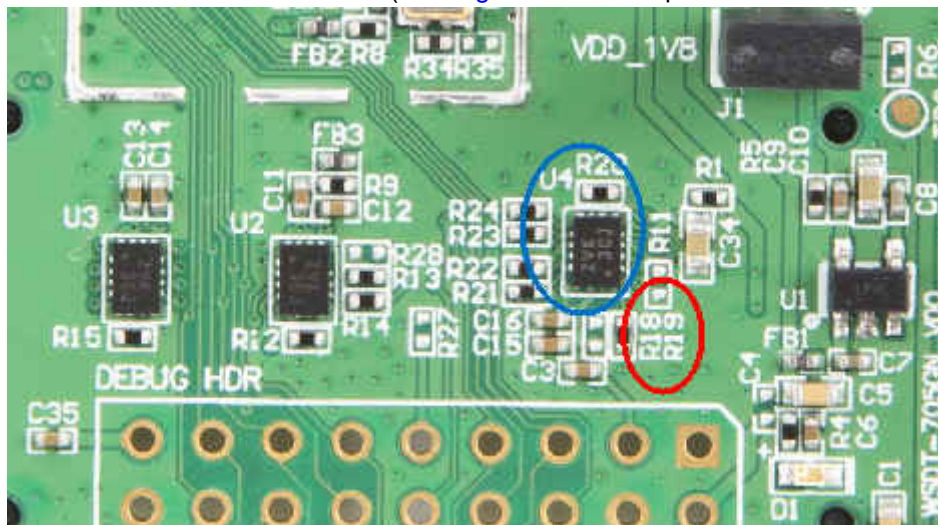

Figure 8-8. Resistors to Change the Direction of PCM
2. Remove resistor R19 on the U4 level shifter. (See Figure 8-8 for the positions of the resistors.)